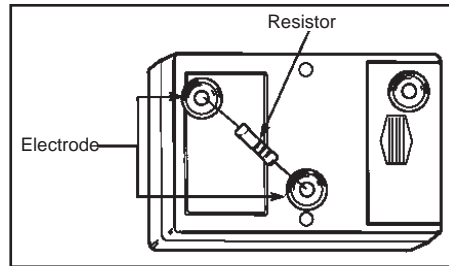

Figure 7. Calibration of the Meg
The Meg is calibrated to NIST traceable standards. It may be returned to the factory for calibration. Contact our Customer Service Department at 0044 (0) 1462 672005 for a Return Material Authorization. Written Purchase Orders are required for calibration services. A check on the function of the Meg can be performed with the following procedure. You will need 1% resistors of the following values: 100K, 1M, 10M, 100M, 1G and 10G ohms. These precision resistors will be placed across the two electrodes on the bottom of the meter (see Figure 7).
B. Place the 10G ohm resistor across the middle electrode and the side electrode as illustrated in Figure 7. Press the test button. The second LED should light. Be sure not to contact the leads or the buttons as your body's resistance will affect the readings.